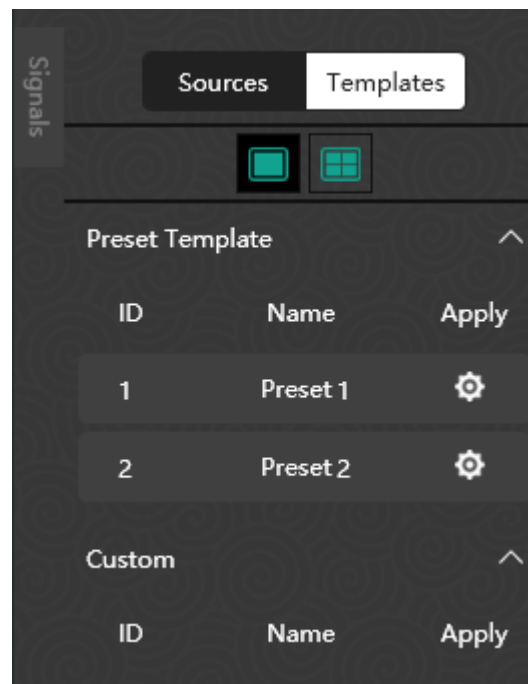

Figure 2.3.10 Templates for a Layout
- **Templates:** It provide various templates in the Templates pane, including preset templates and customized templates, as shown in Figure 2.3.10: